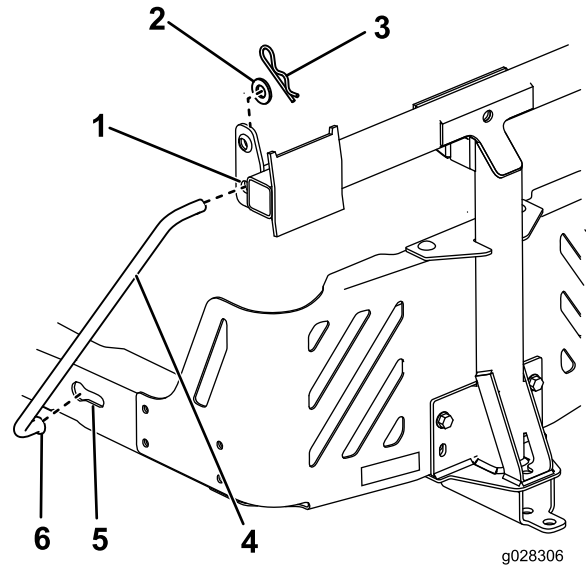

Figure 5
6. Insert the bent ends of the rods into the attachment mount as shown in Figure 5 and secure the end of each rod with a washer and hairpin cotter.
5. Install the bent, flared end of a rod into the keyed slot in the left side of the machine frame, and move the rod rearward to seat it in the frame (Figure 5).